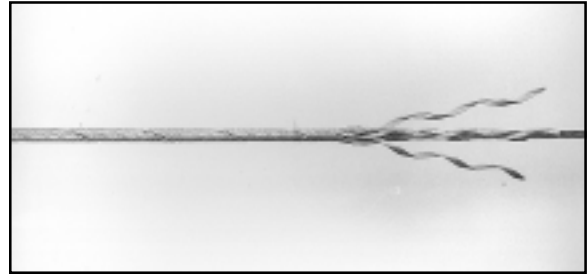

FIGURE 11 - APPLY REMAINING SUBSETS
4.09 Apply remaining subsets as outlined in steps 4.07 and 4.08. (Figure 11)